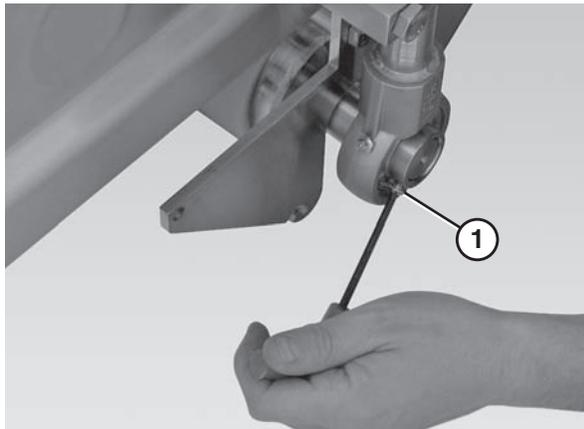

Figure 68
13. Use a 4 mm hex wrench to loosen the button head screws on the bearing (**Figure 68, item 1**).